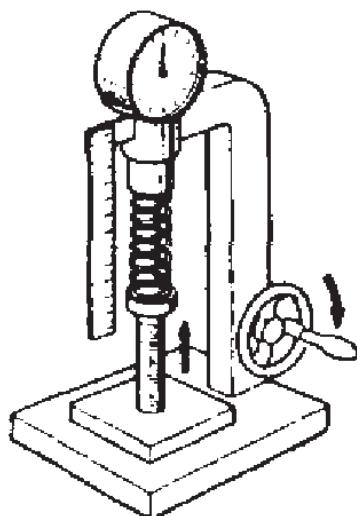

Figure 5-38
3. Measure the spring force after installing the spring at the specified length, using a spring tester (**Figure 5-38**).